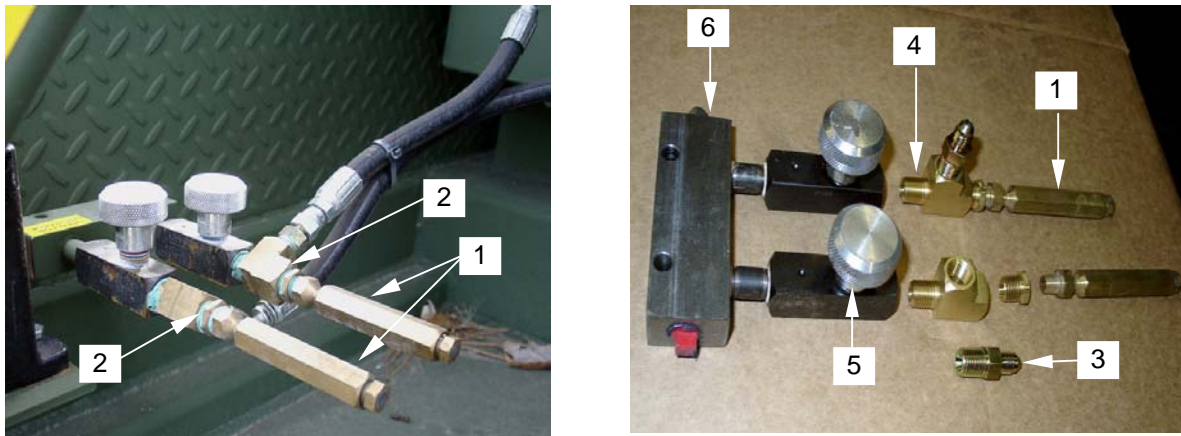

Figure 3. Replacing Hydraulic System Components
2. To replace the fusible frangible link (**figure 3, item 1**) disconnect the link from the T fitting (**figure 3, item 2**). Apply pipe sealant onto the threads of a new link and install onto the T fitting.
3. To replace the hose nipples (**figure 3, item 3**), T fittings (**figure 3, item 4**), control knobs (**figure 3, item 5**), or manifold (**figure 3, item 6**), disassemble the components in the sequence listed. Reassemble new components in reverse sequence, applying pipe sealant onto the threads of components being assembled.